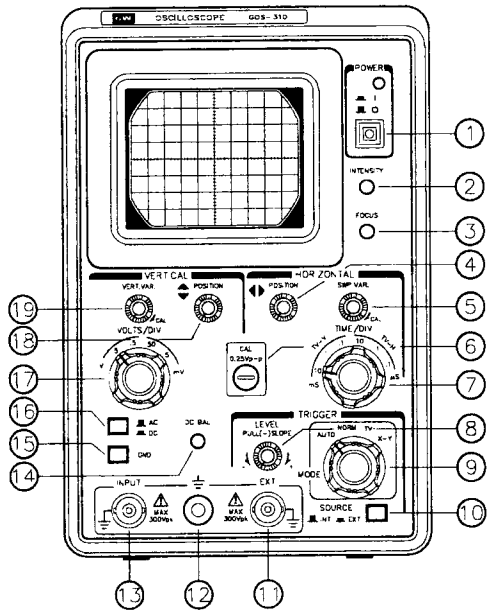

Fig. 1. Front Panel
(see Fig. 1 and 2)
2. To obtain a basic sweep display (numbers in parentheses indicate numbered positions on Fig. 1 and 2)